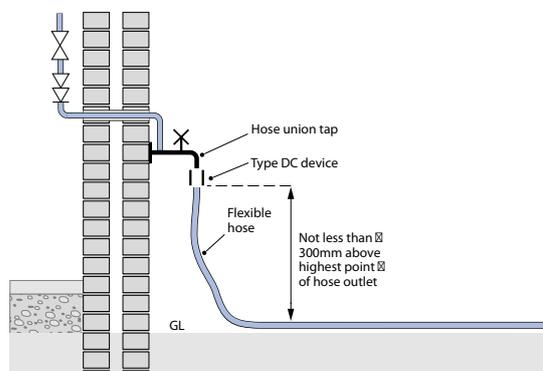

Figure 3. Picture hose union tap with DC device.
- Unless fed by gravity from a storage cistern, hose union taps used with chemical toilet disposal points must be fitted with a permanent DC type pipe interrupter (see Figure 3), an air-gap to drain or a tundish.